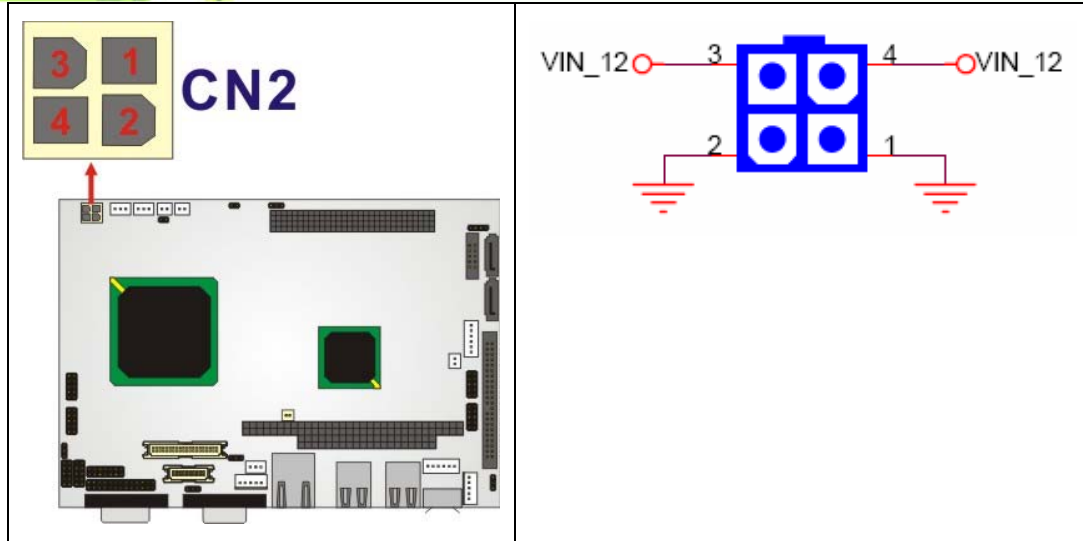

Figure 4-20: CN2 Connector Location
- CN Location:** See **Figure 4-20**